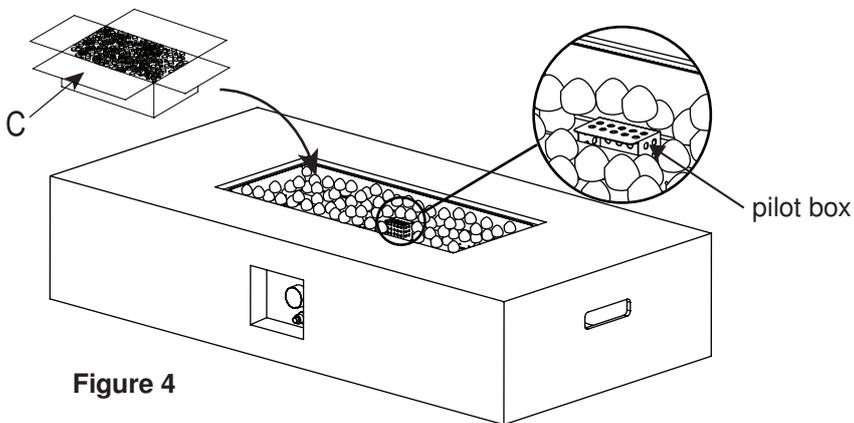

Figure 4
6. Open the box of lava rocks (**E**) and place them evenly in the fire bowl (**B**) (see Figure 4).